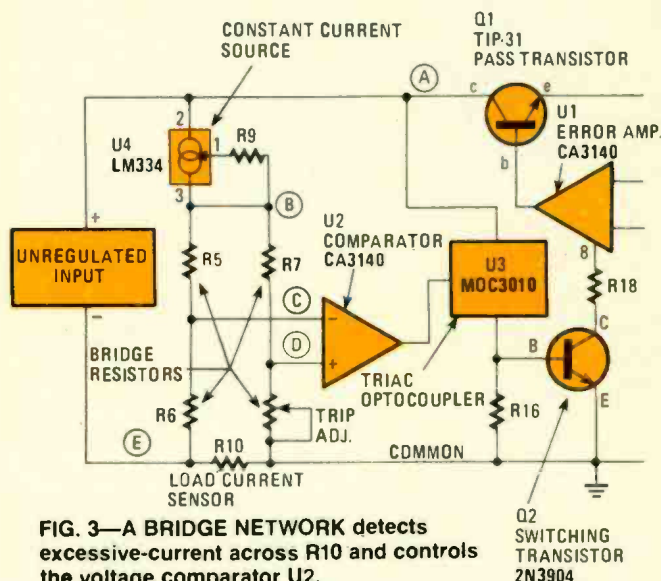

FIG. 3—A BRIDGE NETWORK detects excessive-current across R10 and controls the voltage comparator U2.
By using a comparator driving a Triac optocoupler, my shutdown objectives are easily achieved. Figure 3 shows the basic shutdown circuit.
Table 1 shows the voltages measured in the snap-action over-current circuitry of Fig. 3 under three conditions: (1) No load, (2) full load just before tripping, and (3) after tripping. Just before tripping, the bridge arm voltage to the comparator's inverting input (C in Fig. 3) is slightly larger than voltage D applied to the comparator's non-inverting input. When the trip-value current of 400 mA is exceeded, the comparator output goes high to about 25 volts. That voltage, via R15 (refer to Figs. 3 and 4), causes the internal LED of U3 to illuminate the Triac in U3, which then turns on, permitting about 32 mA to flow from the unregulated input point through the shunted trip indicators, D13, R14, the saturated Triac, and R16. The drop across R16 turns Q2 on via R17, thus grounding R18. Hence, pin 8 of U1 is taken low via R18 and base drive to Q1 is removed. That action reduces the output voltage and current to zero. Of course, with the load current reduced to zero the voltage drop across R10 drops to a low value, and the comparator inputs return to their normal values. The current through the Triac, however, remains latched on until the fault is corrected and RST (reset) switch S2 is depressed. Listed at the bottom of Table 1 are the currents flowing through R10 as calculated from the drops measured across it.
With no external load, the current through R10 (Figs. 3 and 4) is about 14.3 mA. That current represents the currents drawn by U1, U2, and the circuit's resistive dividers. With a 400-mA external load, the current through R10 increases to 414-mA. Under trip conditions, the no-load internal current is increased by the Triac (U3) latched current to a total of 46.5 mA. The measured resistance of my R10 was 1.1 ohms.